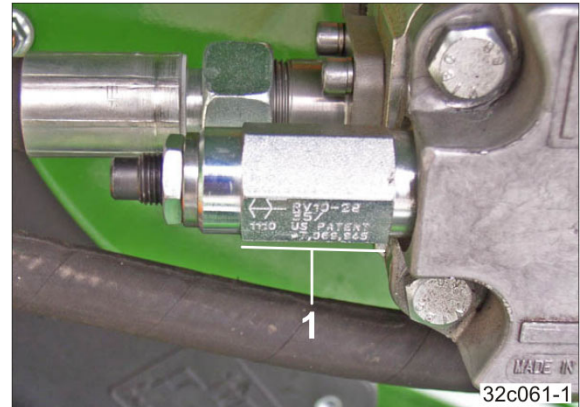

Fig. 170
- 2.2 Pressure relief valve with hexagonal outer contour (Fig. 170/1)